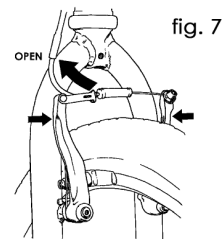

fig. 7
3. Some bicycle brakes, such as disc brakes (fig. 6) and linear-pull brakes (fig. 7), are extremely powerful. Take extra care in becoming familiar with these brakes and exercise particular care when using them.
⚠ WARNING: Some bicycle brakes, such as linear-pull (fig. 7) and disc (fig. 6) brakes, are extremely powerful. You should take extra care in becoming familiar with these brakes and exercise particular care when using them. Applying these brakes too hard or too suddenly can lock up a wheel, which could cause you to lose control and fall.